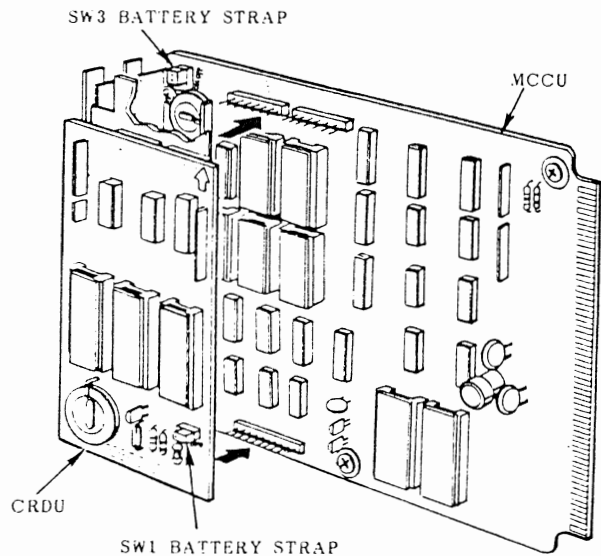

FIGURE 25
09.02 Refer to Figure 25 and verify that the battery on the MCCU (and CRDU, if equipped) is connected to ensure that data changes entered after initialization will not be lost due to power failure.